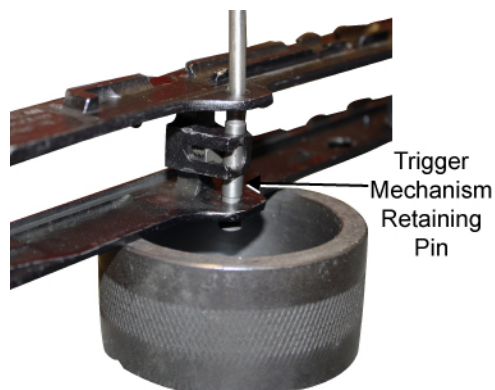

Figure 10. Drift the Trigger Mechanism Retaining Pin.
14. Depress the bolt catch and use a punch to drift the trigger mechanism retaining pin from left to right. The trigger mechanism retaining pin is headed. Refer to Figure 10.